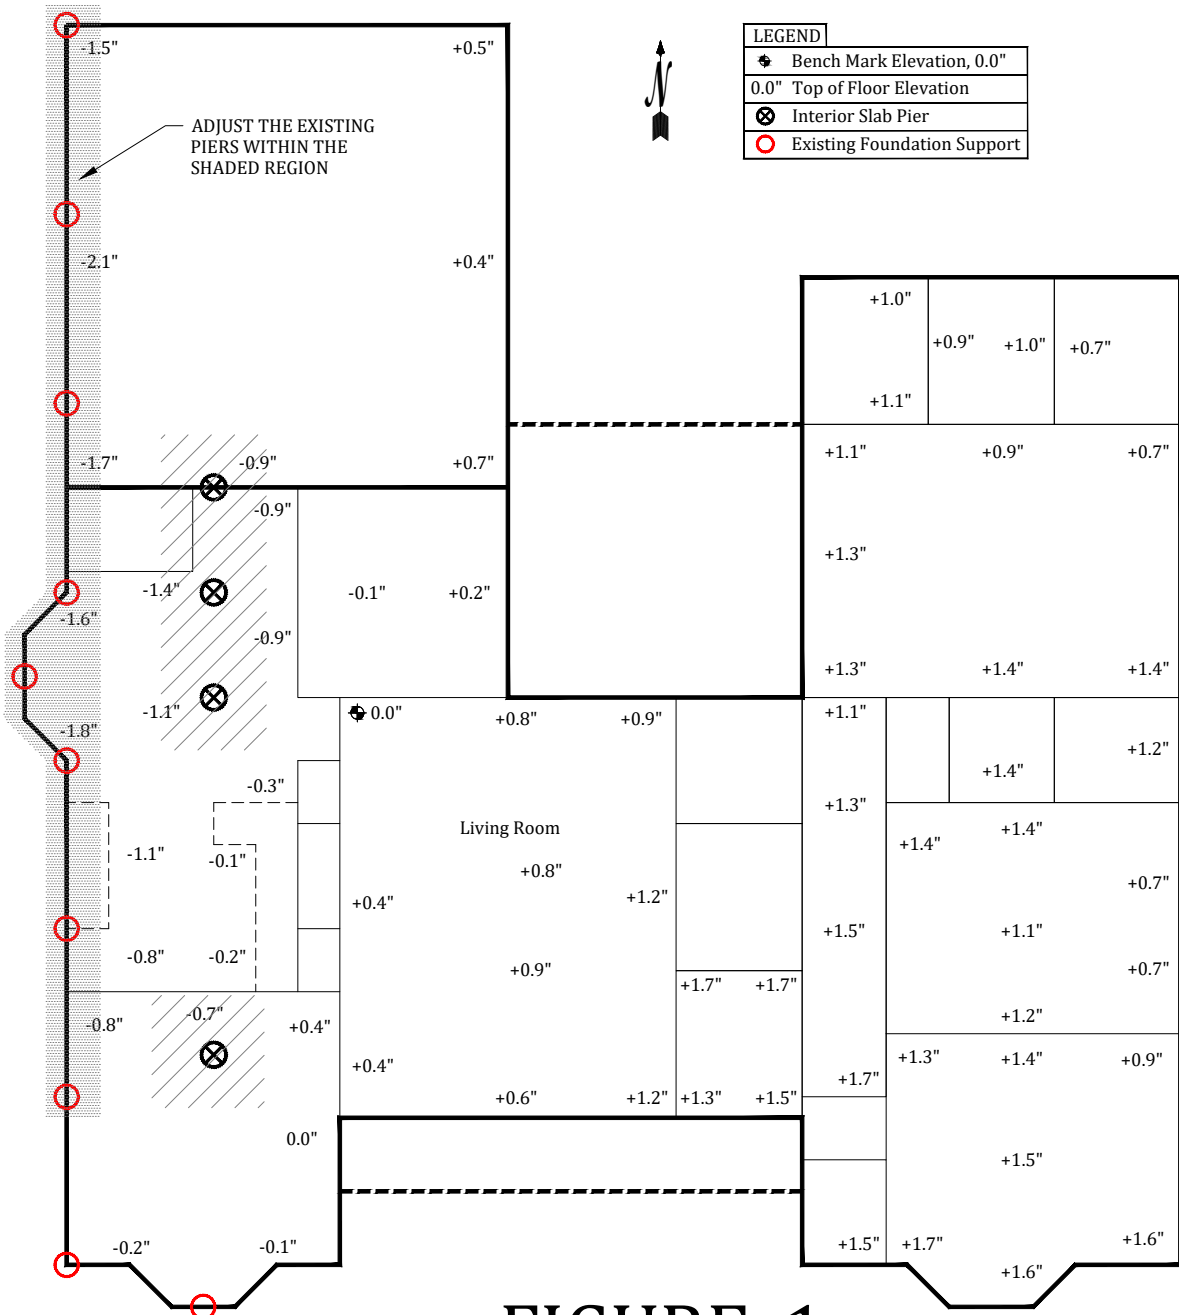
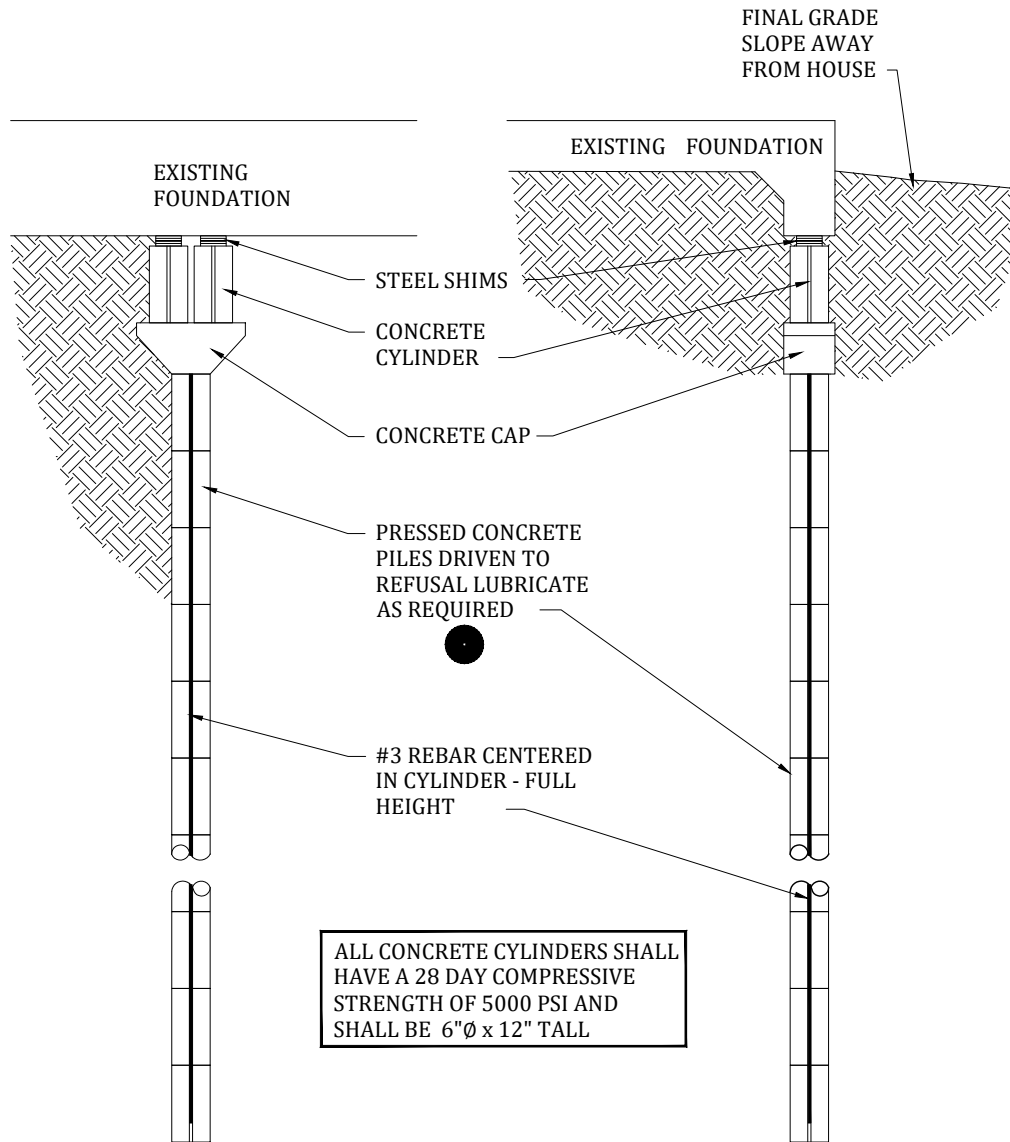

FIGURE 1
FIGURE 2
An interior floor elevation survey was performed on the living area of the house, with the elevations recorded to the nearest 10th of an inch (0.1"). Adjustments were made to account for the thickness of the floor coverings. A benchmark elevation of 0.0 inches was established near the northwest corner of the living room as shown in Figure 1 of this report.
The existing foundation has had foundation underpinning in the past. Per the copy of the repair plan by [REDACTED] (10) perimeter foundation piers were installed approximately 19 years ago, according to the current homeowner. Refer to Figure 1 of this report for approximate locations of the [REDACTED] piers. The exact location of the existing piers, the depth and type used is not known.
- 1) Adjust (8) existing perimeter piers as required to stabilize and lift the perimeter foundation wall. Refer to Figure 1 of this report for the approximate location of the piers to be adjusted. Note, any foundation movement, even corrective movement, can cause additional cosmetic distress.
- 2) To achieve an approximate level condition of the interior floor, install (4) interior piles or drilled piers as shown on Figure 1 of this report. The piles can be concrete cylinders, steel pipe, or helical screws. Refer to Figures 2, 3, 4, and 5 of this report. Space the piles or drilled piers within the interior at a maximum of 5 feet on-center.